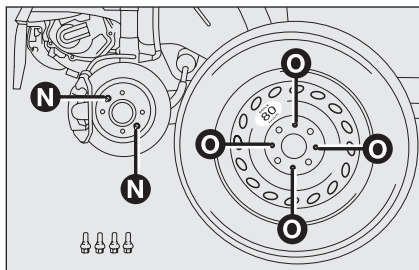

fig. 8
- ☐ mount the spare wheel (space-saver spare wheel for versions/markets, where provided), ensuring that the pins **N**-fig. 8 are aligned with one of the holes **O** on the wheel;